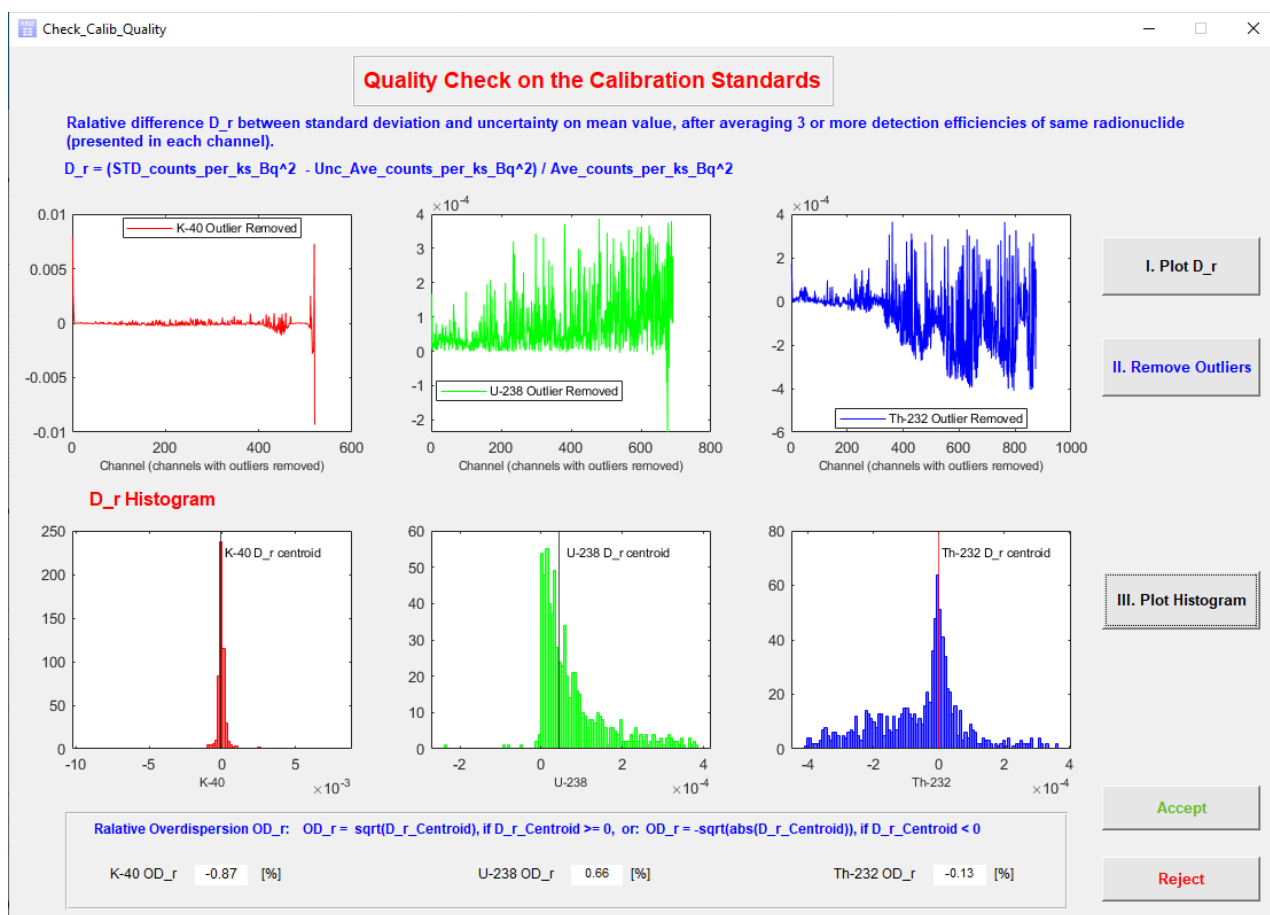

Figure 3.4: “Check_Calib_Quality” window showing
- In "Check_Calib_Quality" window, click buttons from "I. Plot D_r", to "II. Remove Outliers", and to "III. Plot Histogram", as shown in Figure 3.4.